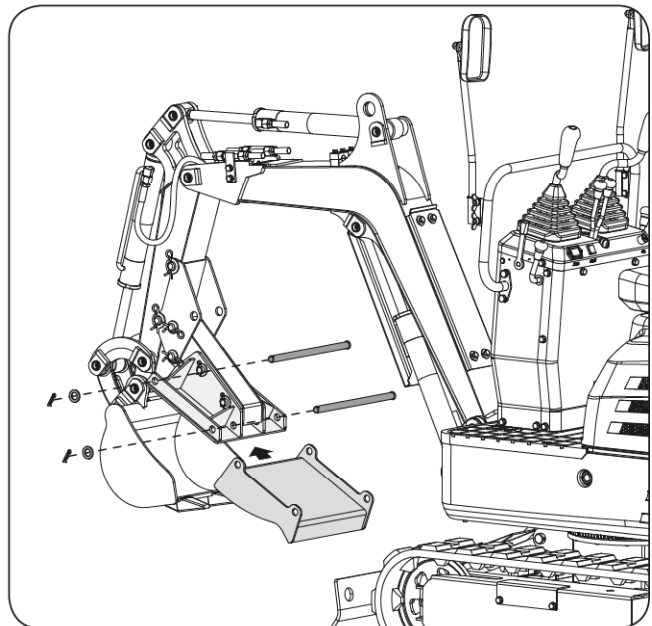

Figure 115
2. Demount the pin shafts 16x300, washers and R-pins from the claw cover. Attach the cover to the clamp from outer side and align the holes. Pass the pin shafts 16x300 through the holes, put on the washers and fix with R-pins. (See **Figure 115**)